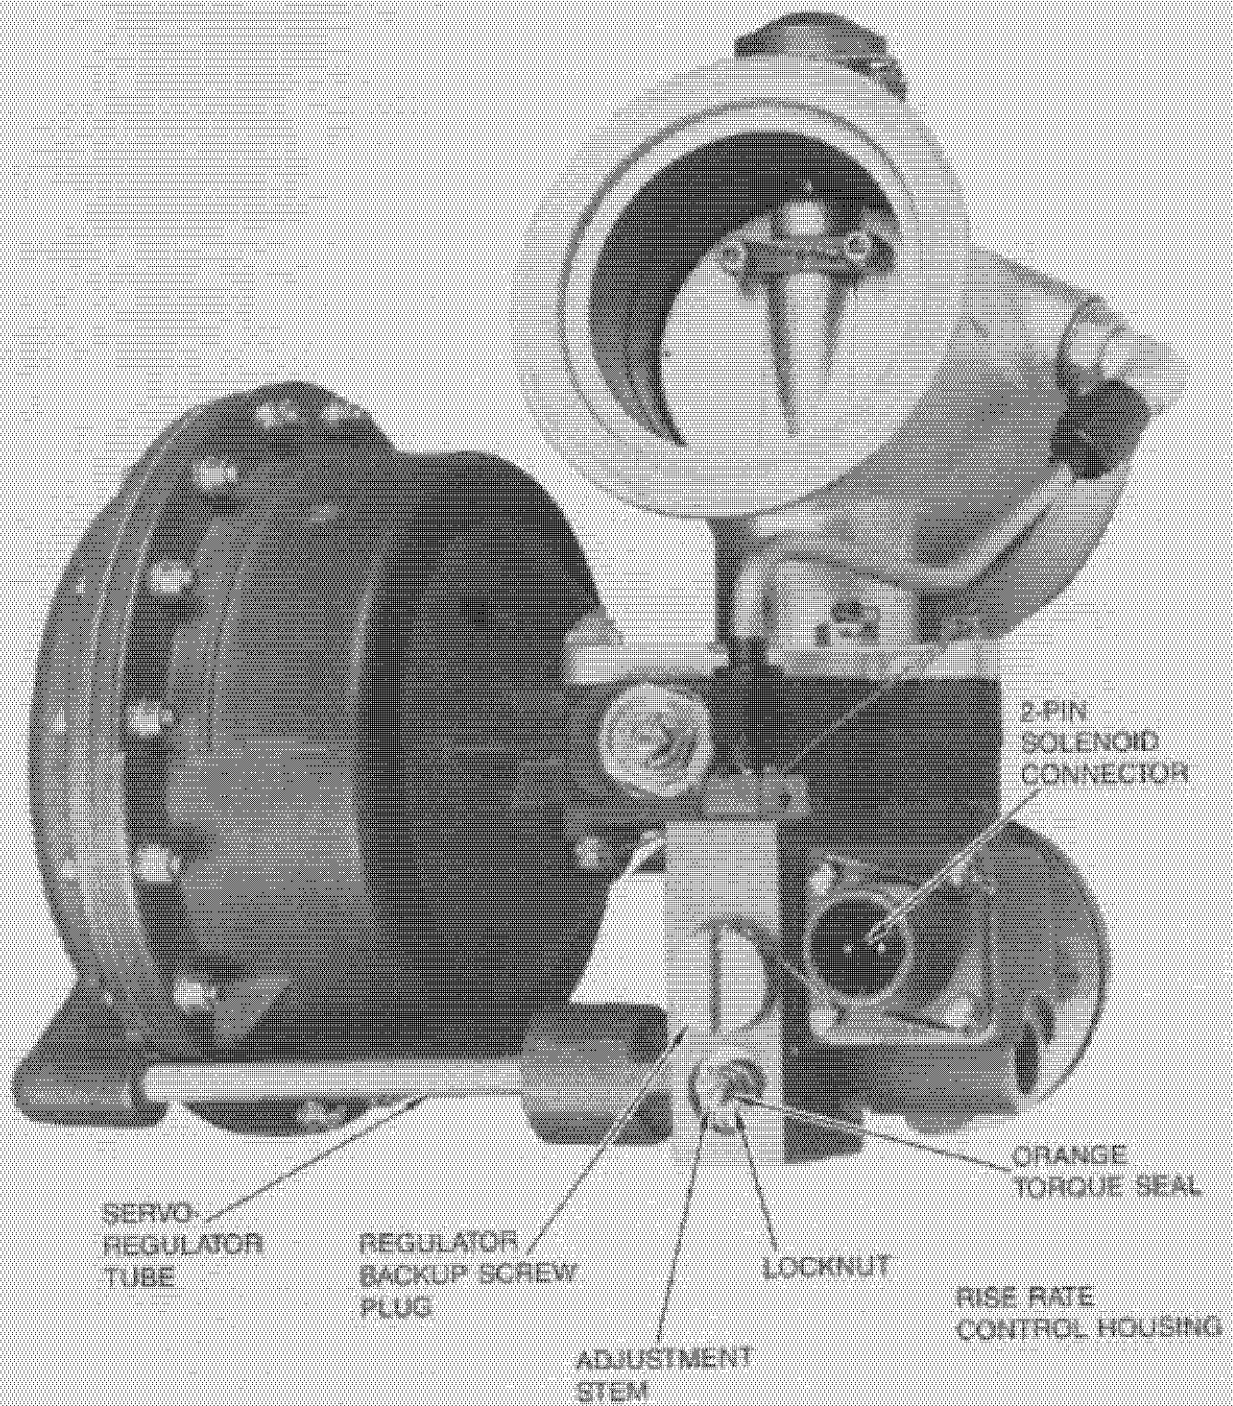

Figure 2. Rise rate control adjustment.
1. First, locate the rise rate control valve housing on the starter valve. It is located between the 2-pin solenoid connector and the servo-to-regulator tube (see **Figure 2**). The rise rate control adjusting stem (No. 10-32 thread) is situated above the large regulator backup screw plug. Both the adjusting stem and its locknut are covered with orange torque seal.
5. Remove the wrench from the locknut and use the screwdriver to unscrew the adjustment stem four (4) complete turns (counterclockwise direction). Be very careful NOT to unscrew the adjustment stem more than four (4) turns since doing so may cause the stem to fall out. With this accomplished, hold the stem stationary with the screwdriver and carefully tighten the locknut (clockwise direction) as required to hold the stem in place.